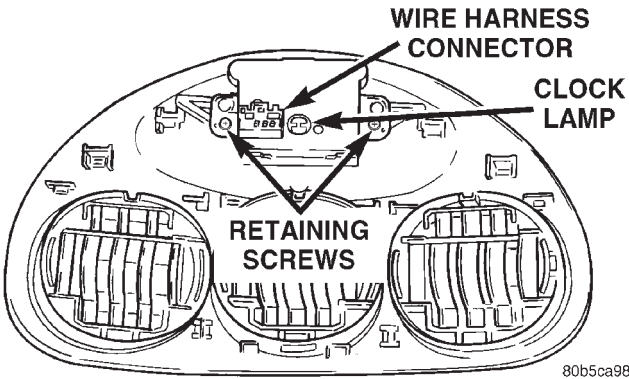

Fig. 9 Analog Clock Removal
- (1) Open hood.
- (2) Disconnect and isolate the negative battery remote cable.
- (3) Using a trim stick (special tool #C-4755), gently pry out instrument panel air distribution outlet bezel that retains the analog clock.
- (4) Disconnect the one wire connector to the clock.
- (5) Remove bezel from vehicle.
- (6) On the bench, remove two retaining screws to analog clock and remove from bezel (Fig. 9).